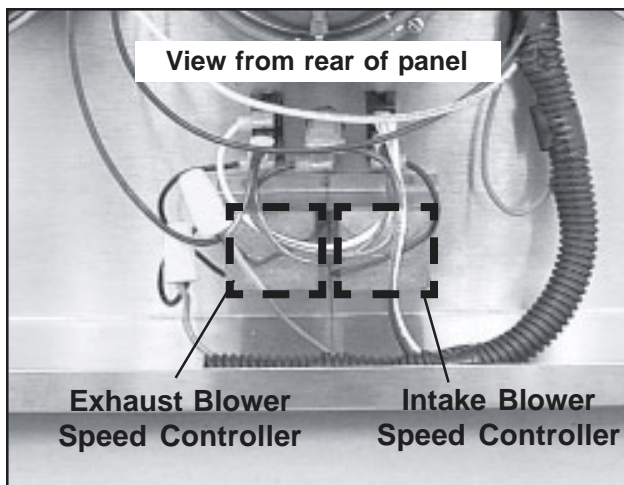

Figure 63. Blower Speed Controllers
5. On the rear of the panel, disconnect only the two wires from the blower speed controller you are removing (Figure 63):